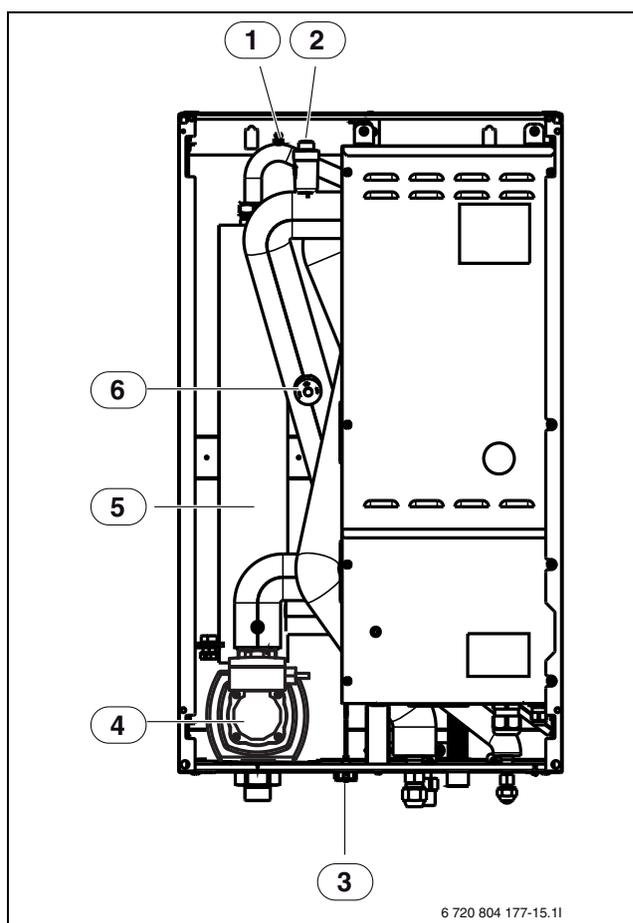

Fig. 24 Hydrocomfort unit with electr. booster heater
- ▶ Vent the heating system by opening the shut off valve (→ [1], fig 24). This may have to be repeated a couple of times and is very important to ensure the correct operation of your heat pump.
The Hydrocomfort unit incorporates a pressure switch (→ [6], fig. 24) which trips if the pressure in the heating system is too low.